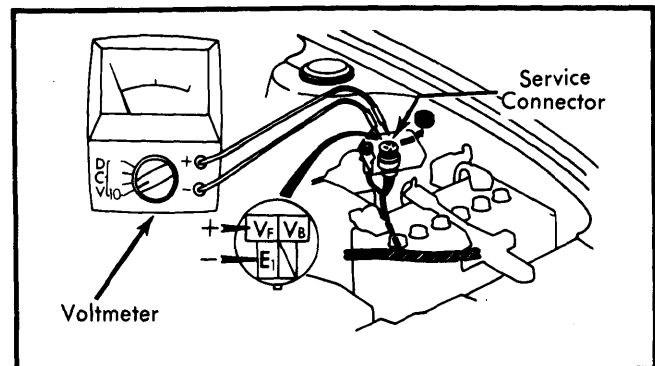

Fig. 5 Idle Speed Service Connections
3) Remove rubber cap from service connector at left front fender and connect voltmeter positive probe to "VF" and negative probe to "E1". See Fig. 5.